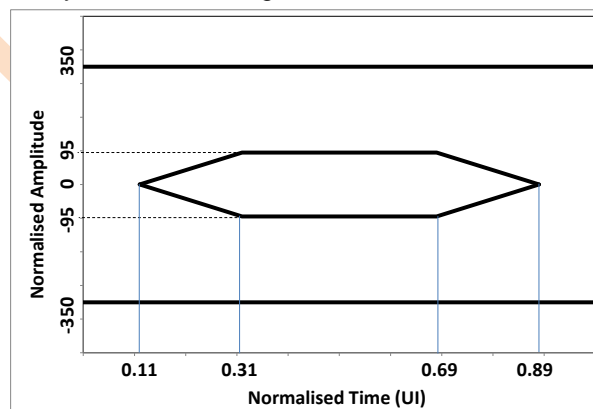

Figure 25: Transmit Electrical Input Eye Mask
- The worst case eye is shown in Figure 25